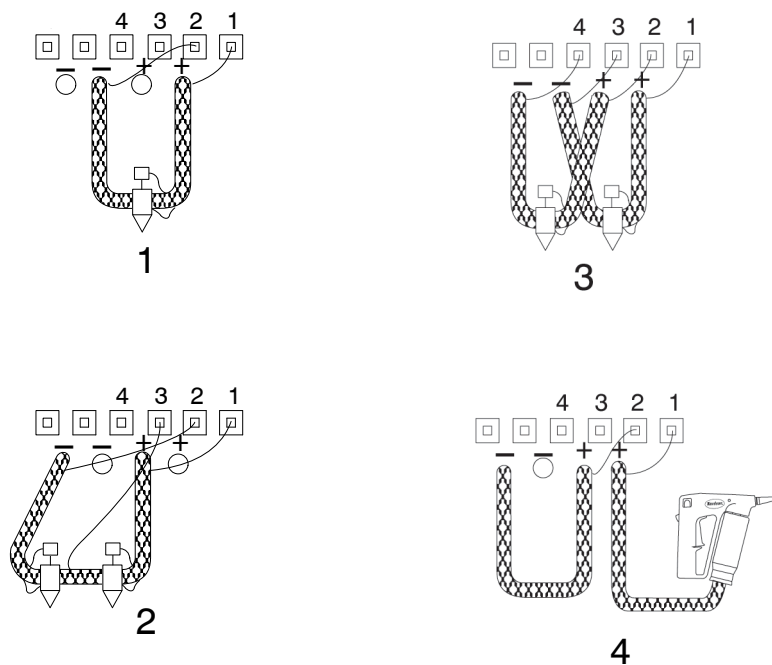

Figure 3-1: Hose and applicator configurations
1. See Figure 3-1 to determine the proper hose and applicator configuration for your melter. A plus (+) sign indicates a hydraulic supply port; a minus (-) sign indicates a hydraulic return port. Squares () indicate electrical connections.